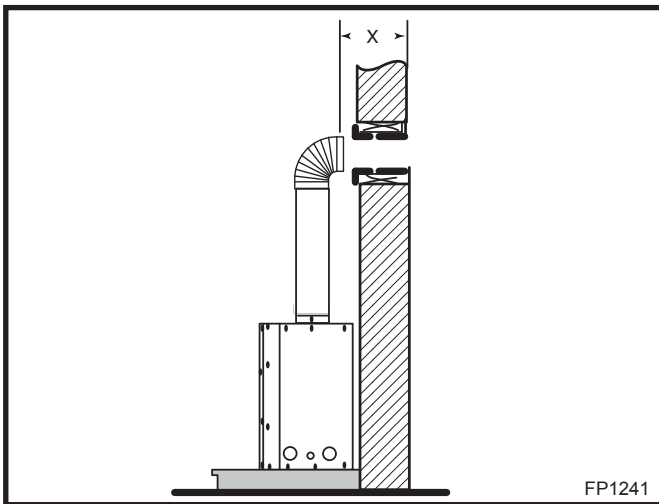

Fig. 24 Horizontal length requirement.
Attach the appropriate venting component(s) to the inner and outer flue collars of the fireplace using three (3) screws. (Fig. 24) Follow with the installation of the inner and outer elbow. Again secure joints with three (3) sheet metal screws.
Measure the horizontal length requirement including a 2" (51 mm) overlap, ie from the elbow to the outside wall face plus 2" (51 mm) (or the distance required if installing a second 90° elbow). (Fig. 24)